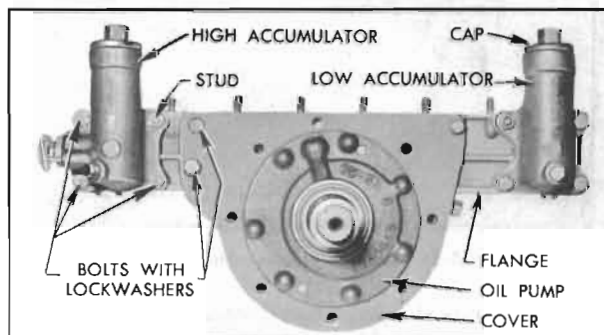

Figure 5-33—Accumulator Body and Reaction Shaft Flange Attaching Screws
3. Remove the bolts which attach the accumulators and the oil pump cover but do not remove the stud nuts which attach these parts. See figure 5-33.